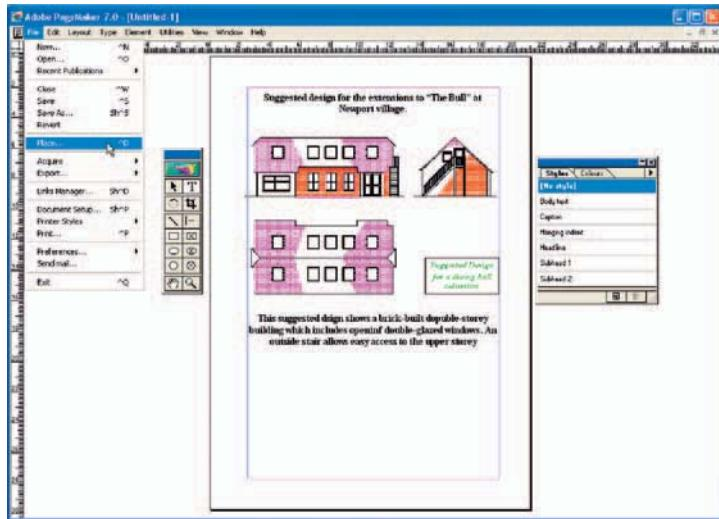

Fig. 10.4 An *.eps file placed in position in a PageMaker document
2. Open a desktop publishing application. That shown in Fig. 10.4 is **PageMaker**.
3. From the **File** drop-down menu of **PageMaker** click **Place...** A dialog appears listing files which can be placed in a PageMaker document. Among the files named will be **building.eps**. Double-click that file name and an icon appears, the placing of which determines the position of the *.eps file drawing in the PageMaker document (Fig. 10.4).